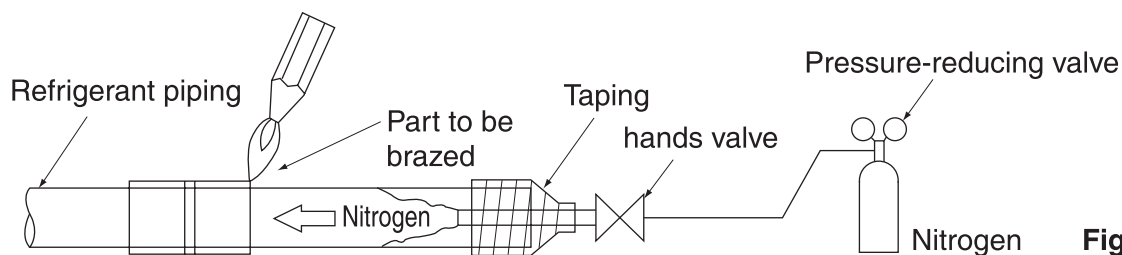

Fig. 14
- Nitrogen should be set to 0.02 MPa with a pressure-reducing valve if brazing while inserting nitrogen into the piping. (Refer to Fig.14)